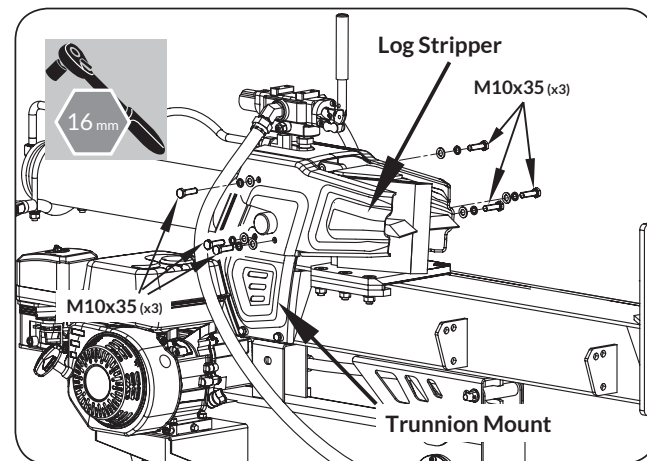

Figure 5a
2. Install the log stripper by tightening the M10x35 bolts, spring washers, and flat washers. (See **Figure 5a**)